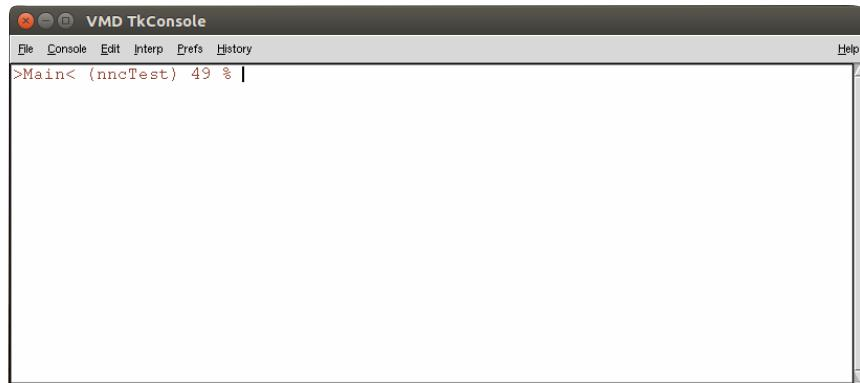

Figure 2: Tk console. To open it on VMD select **Extensions → Tk Console**. Here you will be able to type the commands of this tutorial.
2. Open VMD, select **Extensions → Tk Console** (Figure 2) and specify the location of **nanocomposite**: